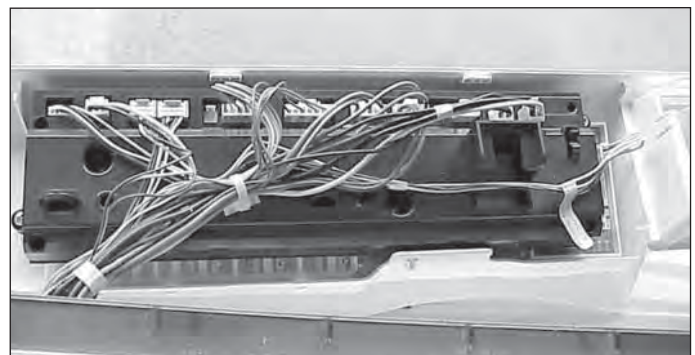

Figure 4-23.
6. Unplug the wiring harness from the control panel and lift the panel off. (See Figure 4-23)